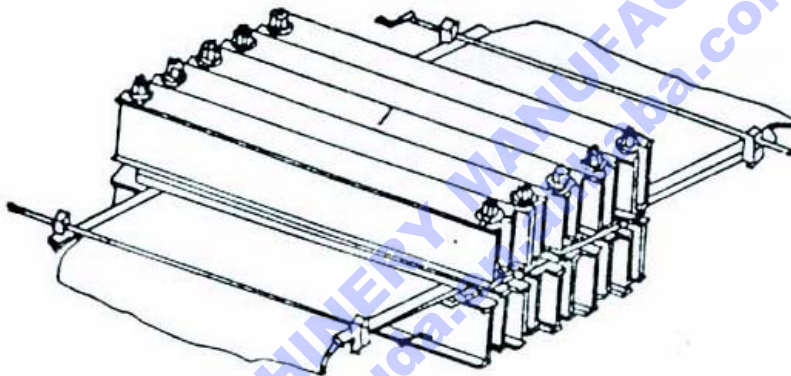

Fig. 10
(6) As shown in figure 10, the pre-tightening bolts, gaskets and nuts are assembled through the oblong notches of the upper and lower frames, and then the nuts should be tightened by spanner. By this time, the assembly of main components of the vulcanizer is finished.